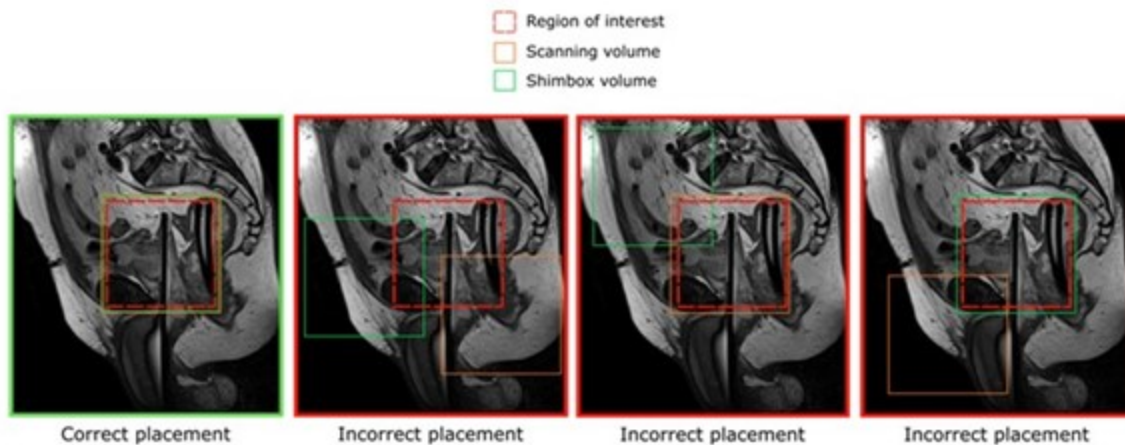

Figure 39: Examples of correct and incorrect placements of the shim box
1. **MRI Technologist:** Open AX THERM for editing in the **Offc/Ang** tab, change the AP, RL, and FH values for both *Stack Offc.* and *Ang* (Figure 40). to match those in TDC. Do the same for the shim volume. If the shim volume includes more than just the patient anatomy (such as air), reduce the size of the shim box (Figure 39).